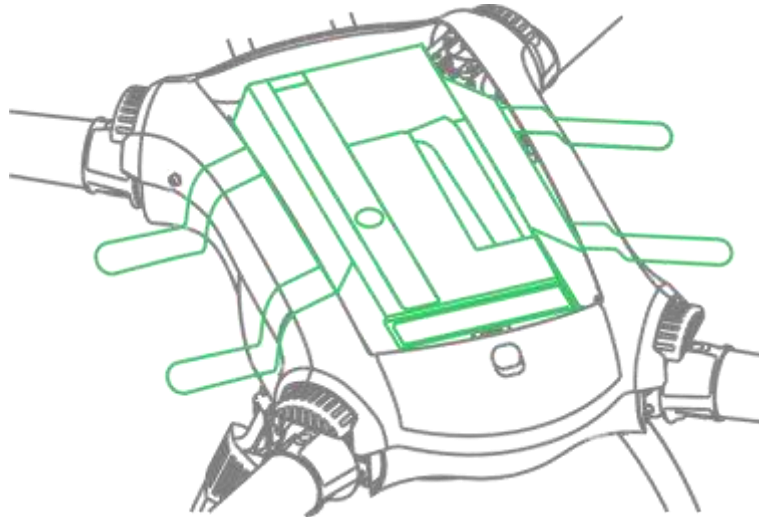

Figure 5-6
- Step 2 Unfasten the fixing band and take out the battery, as shown in Figure 5-6.